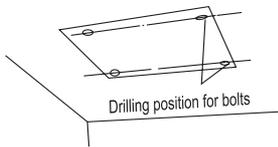

Fig. 2.1
2. Using the installation template supplied with the unit, mark the hole locations as shown in fig 2.1.